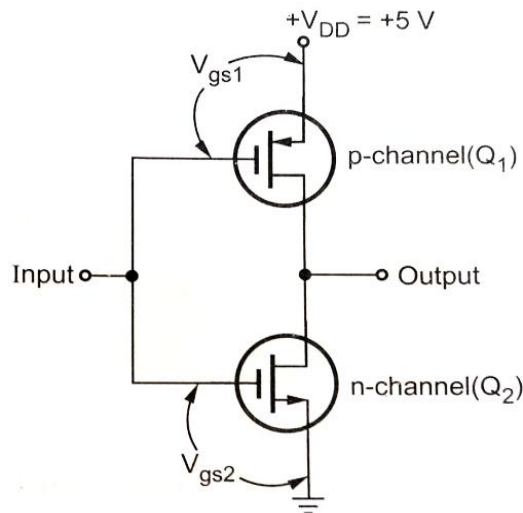

Figure 1.26: CMOS inverter circuit
- Figure 1.26 shows the basic CMOS inverter circuit.